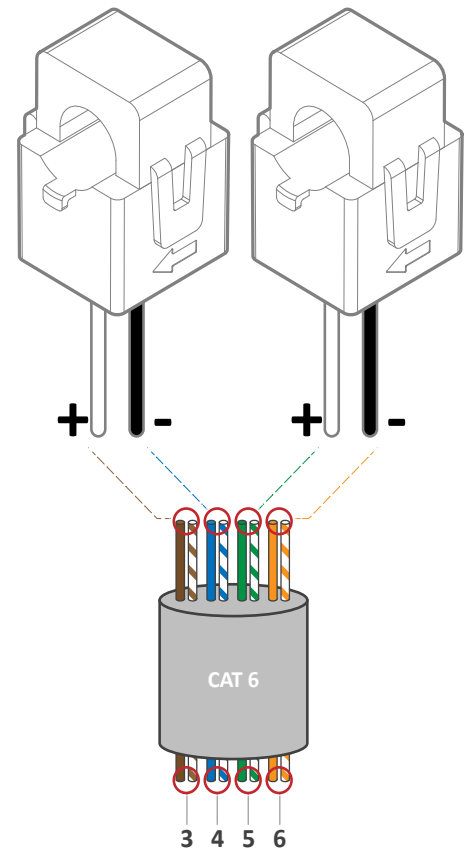

Figure 19: CT wire extensions with shielded CAT 6 cable
- If the wires need to be extended, use CAT 6 (shielded) cable to make an extension (see Figure 19).